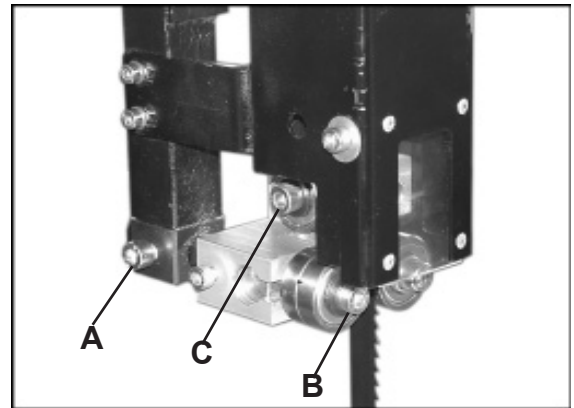

Figure 9
**Upper Guides:** To adjust the upper blade guides, first position the roller guides relative to the blade by loosening the locking hex screw (A--Fig. 9) and moving the guide carrier until the roller guides are approximately 1/16" behind the gullets of the Bandsaw blade and tighten the hex nut (A--Fig. 9). Next set the roller guides to within 1/32" of the blade by releasing the screw (B--Fig. 9) on each side of the blade. Do not set the guides too close, as this will adversely affect the life of the blade. Finally, adjust the thrust bearing to be just clear of the back of the blade by unlocking the hex nut (C--Fig. 9). When the correct adjustment is reached, lock the thrust bearing in position with the hex nut (C--Fig. 9).